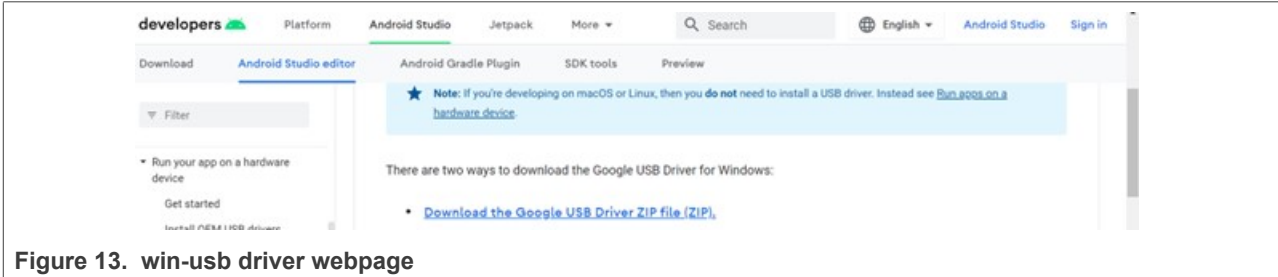

Figure 13. win-usb driver webpage
1. Choose the driver from the webpage [6] (see Figure 13).